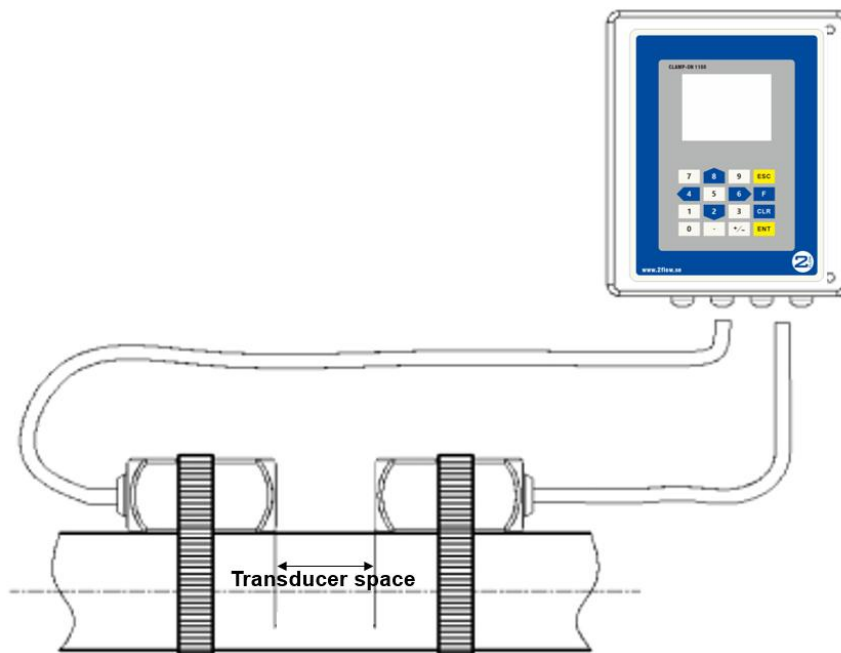

Figure 2.3 Transducer position
3. Place the downstream transducer on the pipe at the calculated transducer spacing. See **Figure 2.3**. Using firm hand pressure, slowly move the transducer both towards and away from the upstream transducer while observing Signal Strength. Clamp the transducer at the position where the highest Signal Strength is observed. A Signal Strength (RSSI) between 60 and 95 is acceptable.